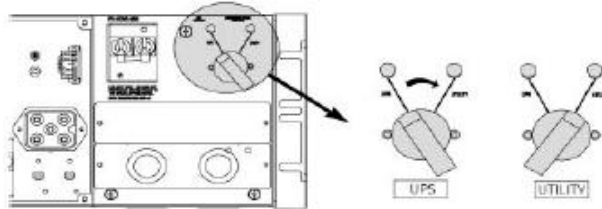

FIG 55 – 6KVA MAINTENANCE BYPASS SWITCH TO UTILITY
- ii. Switch the Maintenance Bypass Switch to BYPASS (FIG 55).